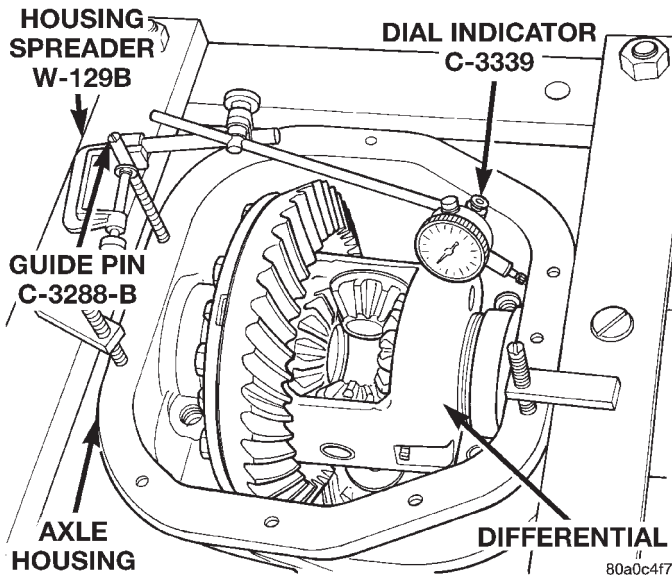

Fig. 19 Spread Differential Housing
- (3) Remove the differential bearing caps.
- (4) Position Spreader W-129-B with the tool dowel pins seated in the locating holes (Fig. 19).
- (5) Install the hold down clamps and tighten the tool turnbuckle finger-tight.
- (6) Install a Guide Pin C-3288-B at the left side of the differential housing. Attach dial indicator to housing pilot stud. Load the indicator plunger
against the opposite side of the housing (Fig. 19) and zero the indicator.
- (7) Spread the housing enough to remove the case from the housing. Measure the distance with the dial indicator (Fig. 19).
(1) Position Spreader W-129-B with the tool dowel pins seated in the locating holes (Fig. 19). Install the hold down clamps and tighten the tool turnbuckle finger-tight.
(3) Spread the housing enough to install the case in the housing. Measure the distance with the dial indicator (Fig. 19).